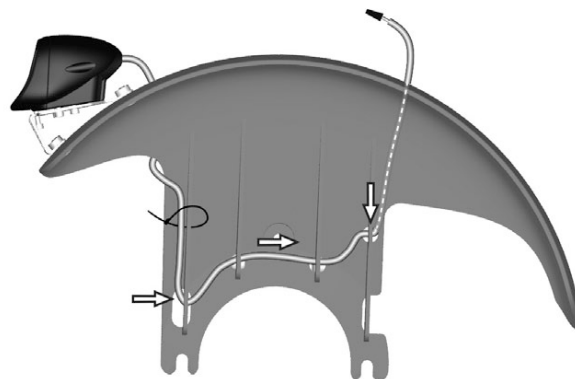

Figure 169. Pull the cable out of the slots and fasten it with a cable tie, then position the end of the lights cable up the hole through the fender.
3. Pull the cable out of the slots and fasten it with a cable tie, then position the end of the lights cable up the hole through the fender. See fig. 169.